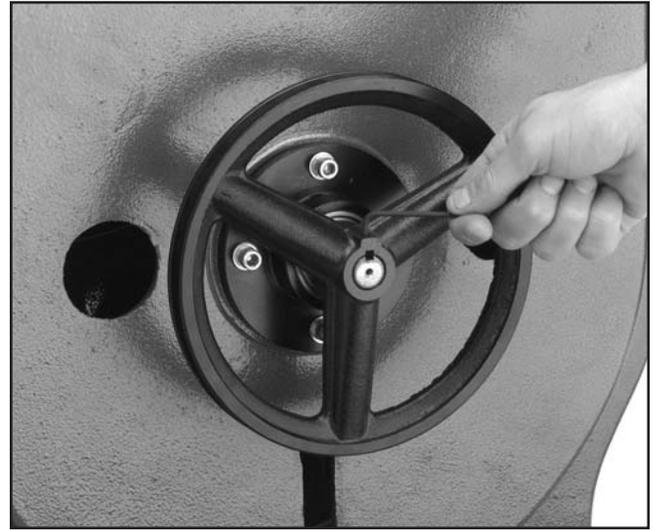

Figure 13. Securing wheel pulley to shaft.
4. Insert one of the 1/4"-20 x 1/4" setscrews into the wheel pulley and tighten to the shaft as shown in **Figure 13**.